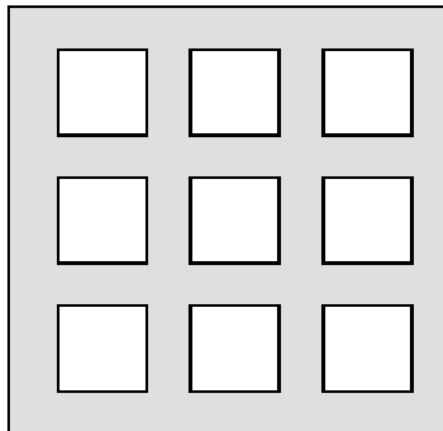

Figure 8. Solder Paste Application on Exposed Pad
4. For the PCB thermal pad, solder paste should be printed on the PCB by designing a stencil with an array of smaller openings that sum to 50% of the QFN exposed pad area. Solder paste should be applied through an array of squares (or circles) as shown in Figure 8.